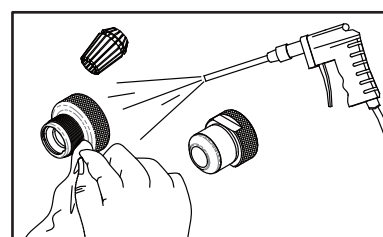
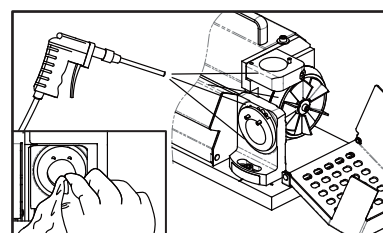

Fig. 11-4
Fig. 11-5
- ① Unplug the power cord and make sure the power is off.
- ② Disassemble the chuck set after use.
- ③ Use the air press gun to clean the scraps and dust out of all grinding shelves and all the accessories. (Fig. 11-4) (Fig. 11-5)
- ④ Use clean cloth to clean each contact port and all the accessories, then put them back in order. (Fig. 11-4) (Fig. 11-5)